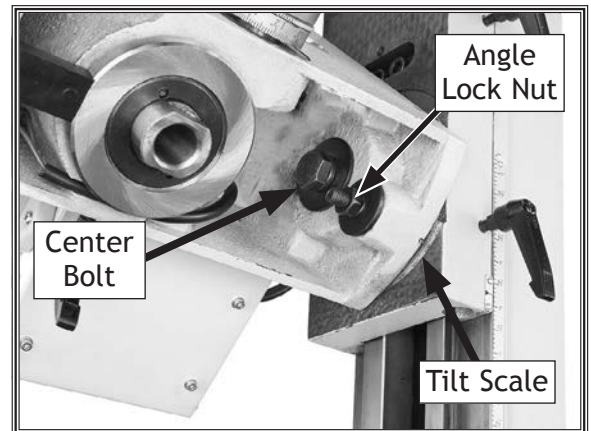

Figure 20. Headstock tilt controls.
2. Support headstock with one hand, then loosen headstock center bolt and angle lock nut (see **Figure 20**).